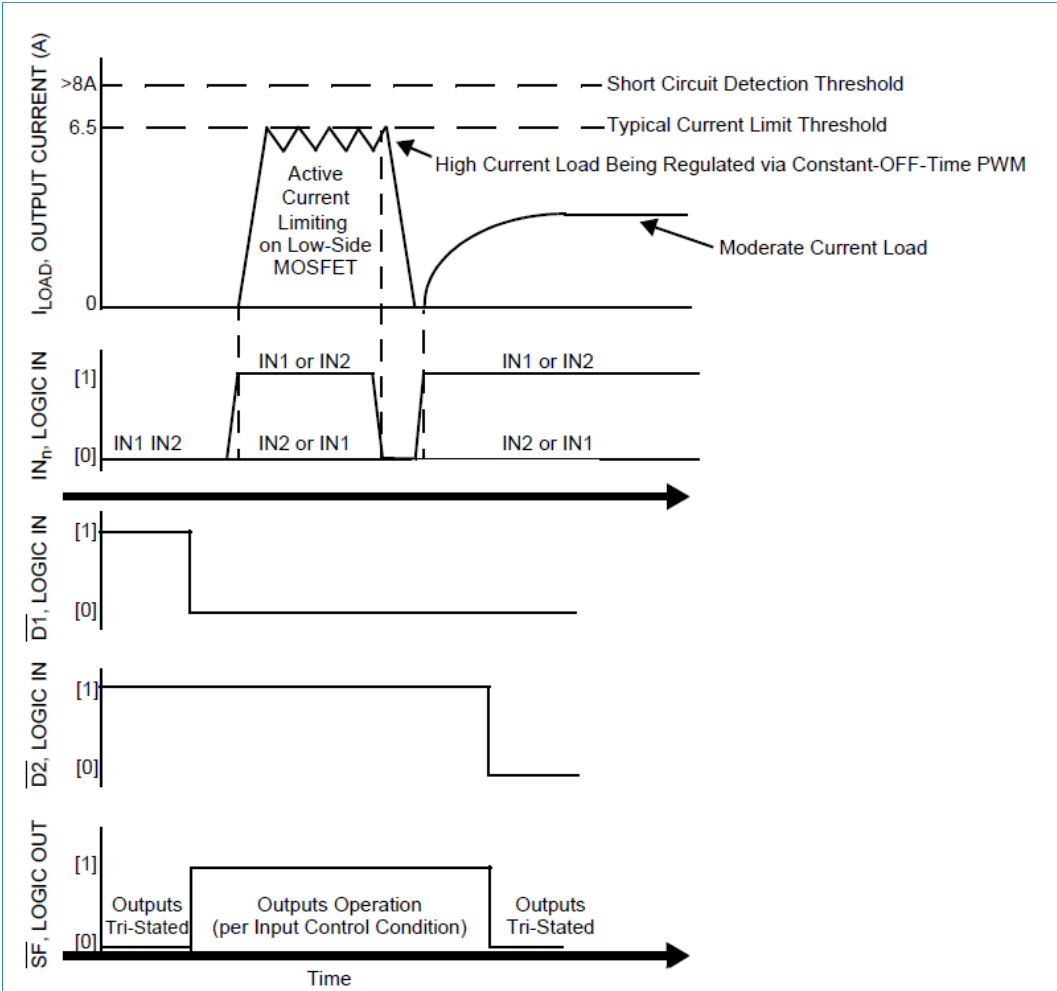

Figure 10. Operating states
- [5] Load currents ramping up to the current regulation threshold become limited at the I_{LIM} value. The short-circuit current possess a di/dt that ramps up to the I_{SCH} or I_{SCL} threshold during the I_{LIM} blanking time, registering as a short-circuit event detection and causing the shutdown circuitry to force the output into an immediate 3-state latch OFF. See Figure 10 and Figure 11. Operation in current limit mode may cause junction temperatures to rise. Junction temperatures above $\sim 160\text{ }^{\circ}\text{C}$ causes the output current limit threshold to progressively foldback, or decrease with temperature, until $\sim 175\text{ }^{\circ}\text{C}$ is reached, after which the T_{LIM} thermal latch OFF occurs. Permissible operation within this foldback region is limited to nonrepetitive transient events of duration not to exceed 30 seconds. See Figure 9.